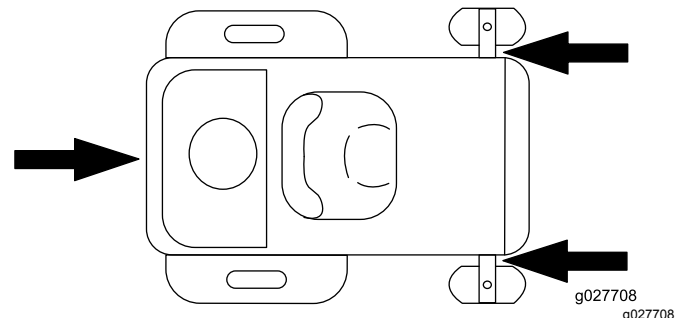

Figure 29
5. Tie down the machine near the front caster wheels and the rear bumper (Figure 29).